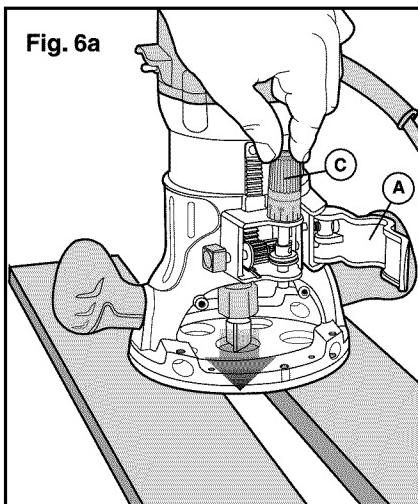

Fig. 6a
3. Open the motor clamp (A).
4. With the cutter bit already installed, press in the coarse adjustment knob (B), and lower the motor into the base until the cutter bit is very close to the flat surface on which the base is sitting. Turn the fine adjustment dial (C) until the cutter bit “just” touches the flat surface on which the base is sitting. Lock the motor clamp (A).
5. While continuing to press the coarse adjustment knob (B), turn the fine adjustment dial (C) until the zero “0” is aligned with the “I” mark on the base.
7. Place the router on two level scrap workpieces, and position it so that the cutter bit can be lowered below the sub-base. (Fig. 6a).
8. Turn the fine adjustment dial (C) clockwise to lower the bit to the desired depth of cut. Turn the dial counterclockwise to raise the cutter bit.
9. Once your depth of cut is set, close the motor clamp (A) securely.